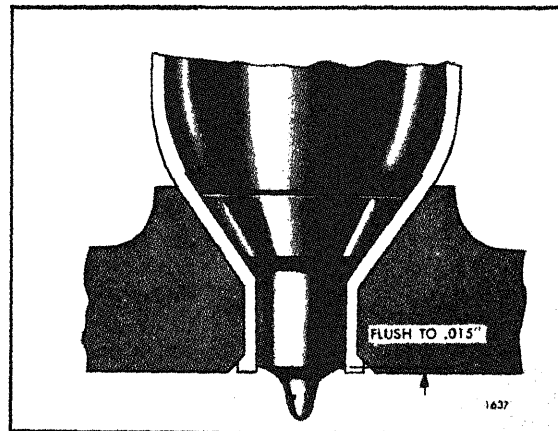

Fig. 6 - Checking Location of Injector Spray Tip Relative to Lower Surface of Cylinder Head
The tapered lower end of the injector tube must provide a smooth and true seat for the lower end of the injector nut to effectively seal the cylinder pressures and properly position the injector tip in the combustion chamber. Therefore, to determine the amount of stock that must be reamed from the bevel seat of the tube, the injector assembly should be installed in the tube and the relationship between the numbered surface of the spray tip to the fire deck of the cylinder head noted (Fig. 6).
- d. Remove the chips from the injector tube by using an injector as a gage, continue the reaming operation until the shoulder of the spray tip is within the limits specified in Fig. 6. Then wash the interior of the injector tube with trichloroethylene or clean fuel oil and dry it with compressed air.